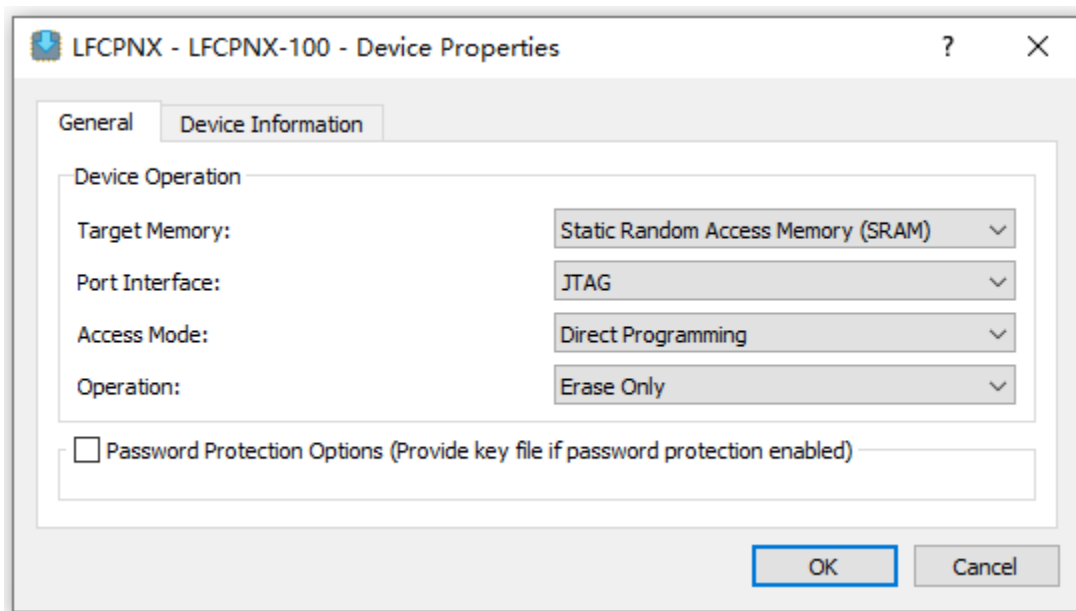

Figure 8.2. Device Operation
4. In the pop-up Device Properties dialog (Figure 8.2), select **JTAG** for **Port Interface**, **Direct Programming** for **Access Mode**, and **Erase Only** for **Operation**.